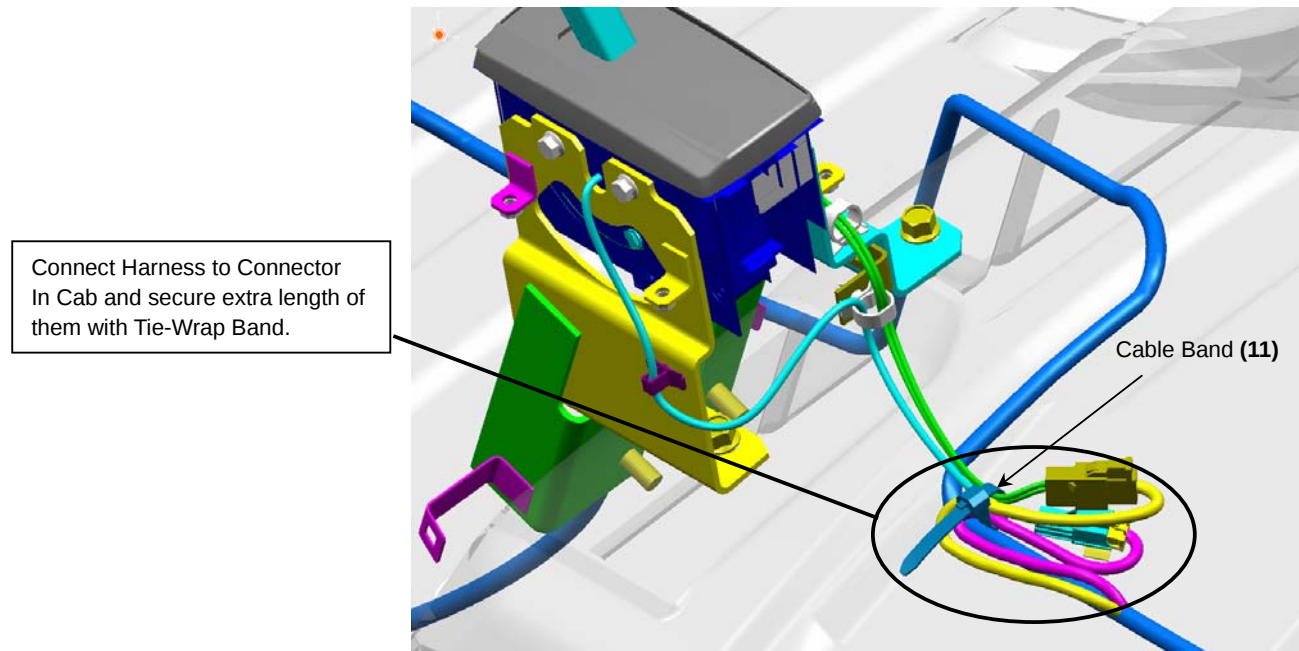

Fig 16. Connecting and securing Harness
10. Reconnect OD Switch Harness Connector and Illumination Lamp Harness Connector to the cab side Connector as shown in Figure 16.